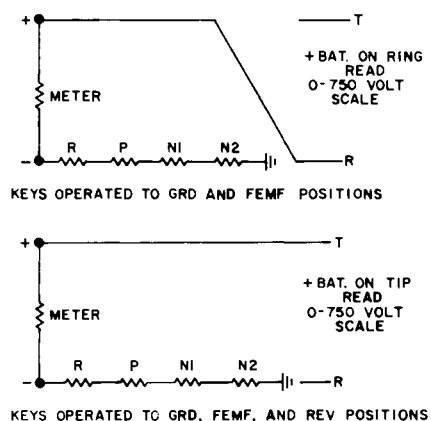

Figure 13. Test for foreign positive potential on ring or tip.
5.2.4 Test for foreign positive potential on ring (figure 13).
5.2.6 Test for foreign positive potential on the tip (figure 13).